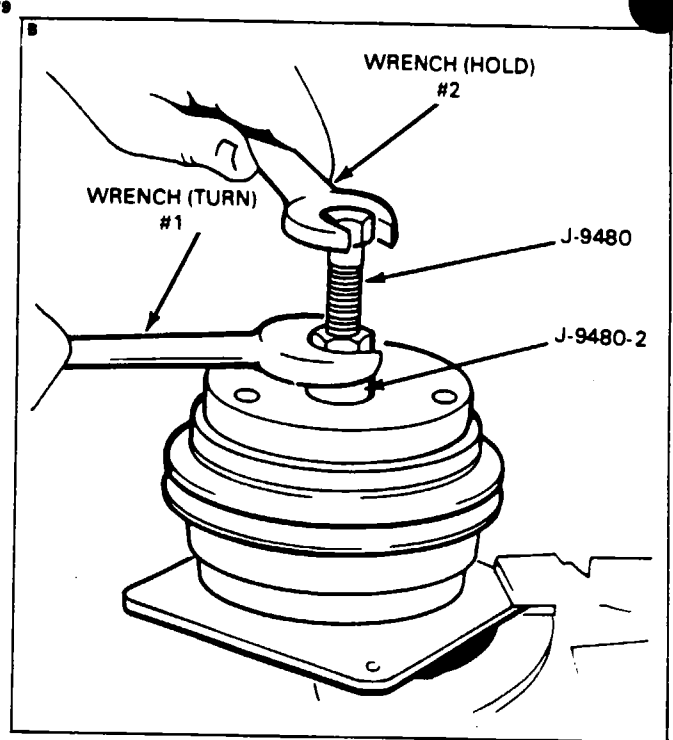

Figure 21-29. Installing Driven Plate
9. Replace the installing tools and adjust the air gap by carefully turning the wrench. (Refer to Figure 21-29.)